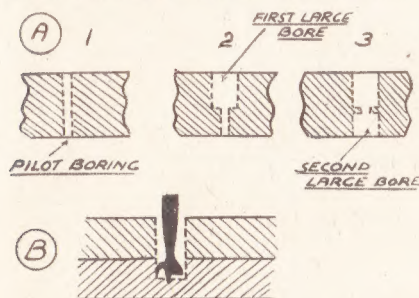

Fig. 1—Boring in soft wood
two-thirds its thickness, taking care, of course, to preserve perpendicular. Removing the bit, turn the material over, and having the lower end of the pilot hole to work from, start boring from this side, continuing till the two holes meet (see (A) Fig. 1).
Boring is now carried out in the usual way, work continuing, however, till the bit is well into the second piece, as (B) Fig. 1. Upon separating the pieces it will be found that the upper one has been bored with a hole having clean edges at both ends. Of course, what happens in this case is that temporarily the two pieces become in effect a single block of wood.